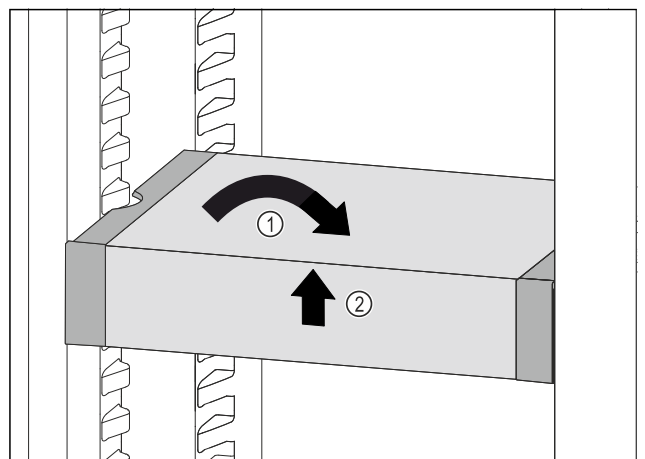

Fig. 76
- Set VarioSafe straight. Fig. 76 (1)
- Lift VarioSafe at the front. Fig. 76 (2)